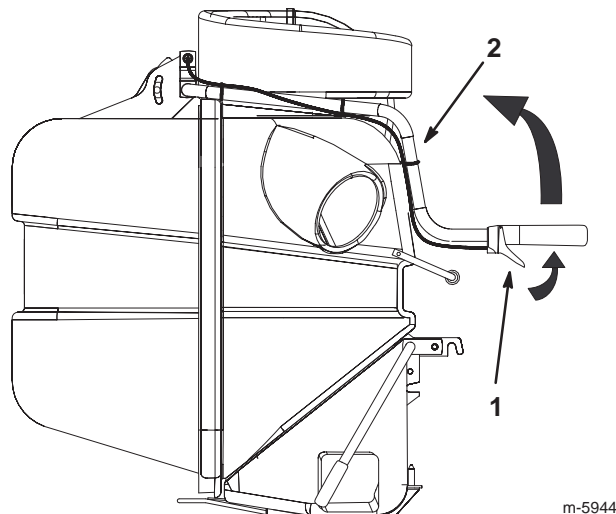

Figure 18
3. Squeeze the collector lever on the collector arm (Fig. 18).
4. Raise the collector arm to the highest position and release the collector lever (Fig. 18). The locking pin will drop into a hole in the highest position.
5. Pull the collector arm down to raise the back of the collector (Fig. 18).
6. Close the back of the collector and squeeze the collector lever (Fig. 18).
7. Lower the collector arm to the working position (Fig. 18).